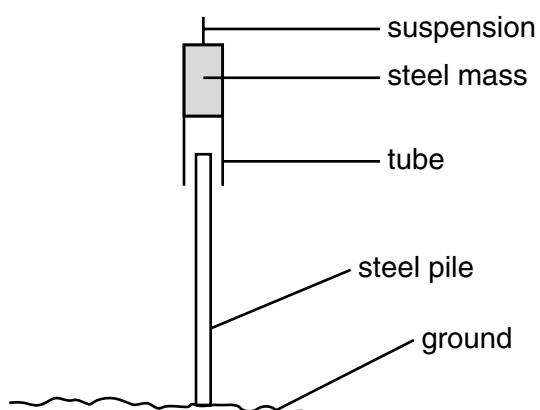

Fig. 1.1
- 1 Fig. 1.1 shows the outline of a machine for driving steel pillars (called piles) into the ground.